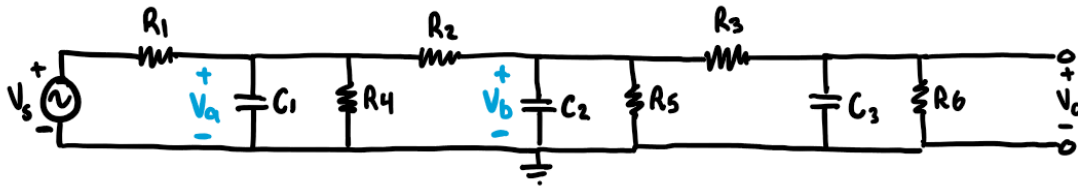
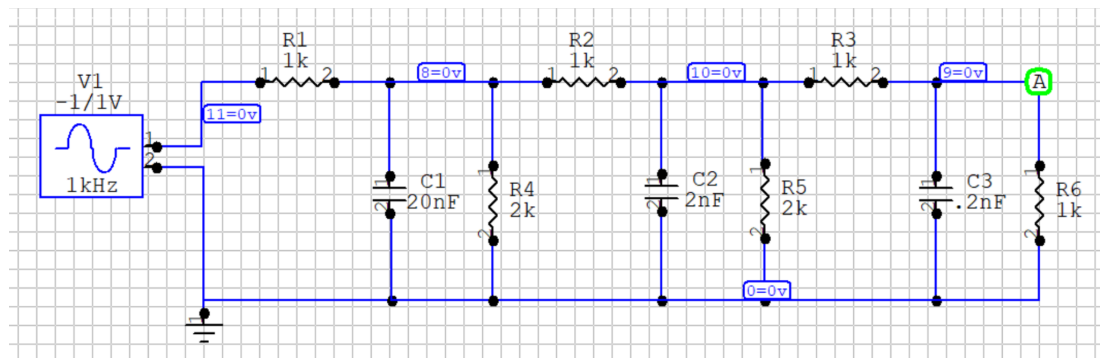
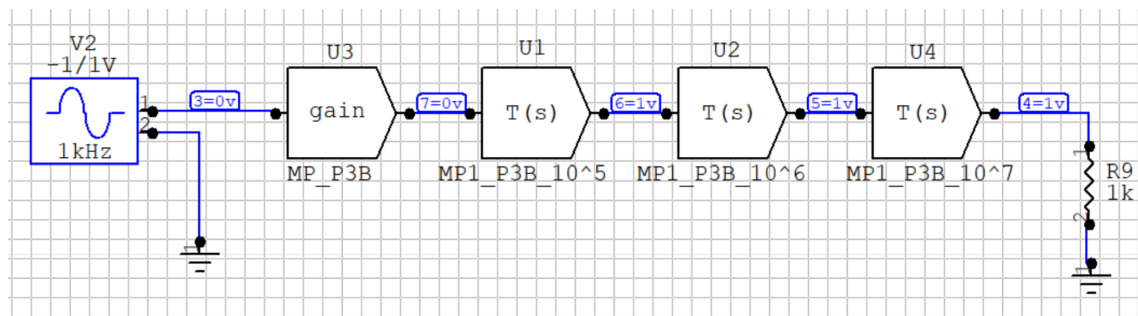

Figure 3.1 Three Pole Low Pass Filter & Transfer Function
Figure 3.2 Final Circuit in CircuitMaker
Figure 3.5 Transfer function from Figure 3.1 Simulated in CircuitMaker
A. In Figure 3.1 we have a three-pole low pass filter:
Given the following requirements, (1) $C_1 > C_2 > C_3$ (2) 4x 1k resistors + 2x 2k resistors, we will derive the resistance and capacitance needed in the circuit in Figure 3.1 to satisfy the transfer function in Figure 3.1. We are given the gain from the transfer function, assuming non-unity gain for each node we find:
From the transfer function in Figure 3.1 we can also extract tau:
Given we know $C_1 > C_2 > C_3$ and $\tau = C \cdot R$ we can assign the following τ values appropriately. Using the method of SC & OC time constants we can find the capacitors from Figure 3.1.
We now have our final resistance and capacitance values. Our final circuit imported into CircuitMaker seen in Figure 3.2:
Now I will compare this derivation of resistances and capacitances in the Figure 3.2 circuit and simulate it against the transfer function. Taking the transfer function from Figure 3.1:
Now overlaying for comparison the Bode plots of Figure 3.5 and Figure 3.2:
We can see that the transfer function from Figure 3.1 and our capacitance and resistance that we chose for the circuit Figure 3.2 produce the exact same Bode response. Both the transfer function and circuit **produce the same Bode response**. This effectively demonstrates how you can produce values for a corresponding circuit based solely on a transfer function.